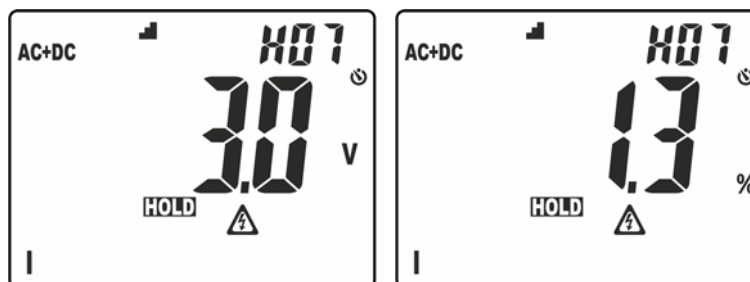

Fig. 4: Display of ordering of amplitude of harmonic analysis
- Long pressing of the key (at least 2s) in order to activate the **H₂O** (**H**igher **H**armonic **O**rdering) ordering function of the amplitude of harmonics. In these conditions, function "HOLD" is automatically activated, symbol $\blacktriangle$ is shown on the display, the bargraph is disabled and the instrument shows the value of amplitude of all harmonics between the 2nd and the 25th, in **decreasing order** from the harmonic with the highest value, as shown in Fig. 4.
In the example in Fig. 4, the harmonic with the highest value corresponds to the 7th. Press key $\blacktriangle$ to observe the amplitude of the remaining harmonics and press key **H/H%/H** again to switch between display in absolute and percentage values. Turn the rotary switch to exit the function.